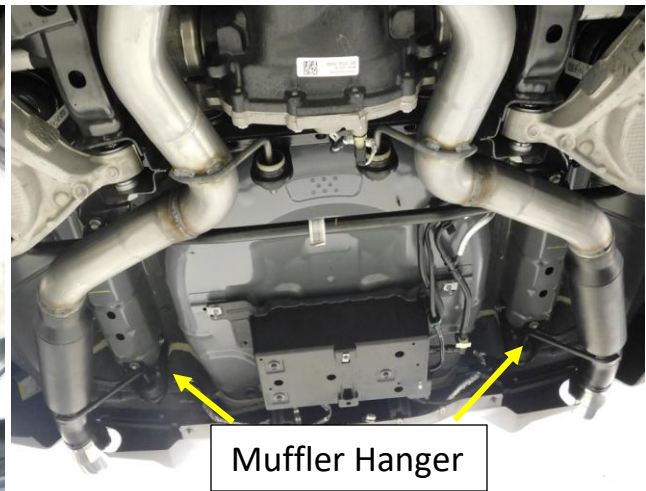

Figure.9
6. Install the OEM muffler hanger assembly onto the Flowmaster Muffler hanger rod, rotate into position and clip the tab into the frame rail. Install the (x2) Mounting bolts **Fig.9**